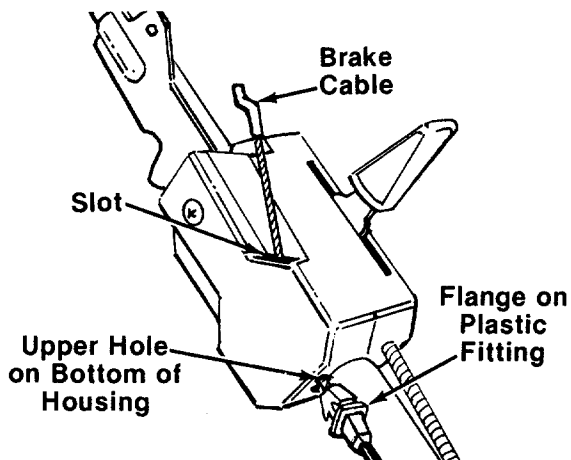

FIGURE 5.
8. The brake cable is attached to the engine, and has a "Z" fitting on the loose end. Route the brake cable under the lower handle. Place end of cable into the upper hole on the bottom of the control housing, and through the slot as shown. The angle of the flange on the plastic fitting must be positioned downward as shown in figure 5. Be careful not to bend or kink the cable.